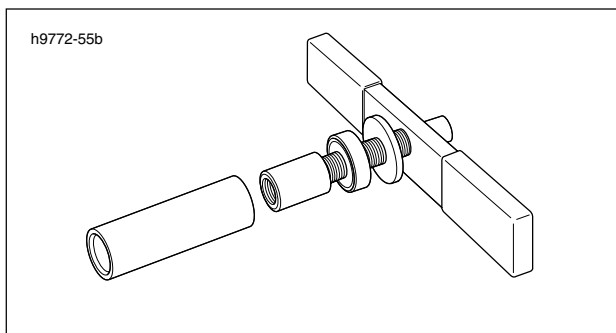

Figure 3-13. Sprocket Shaft Timken Bearing Cone Installer (Part No. HD-97225-55B)
5. See Figure 3-13. Obtain the SPROCKET SHAFT TIMKEN BEARING CONE INSTALLER (HD-97225-55B). Assemble tool as described below.